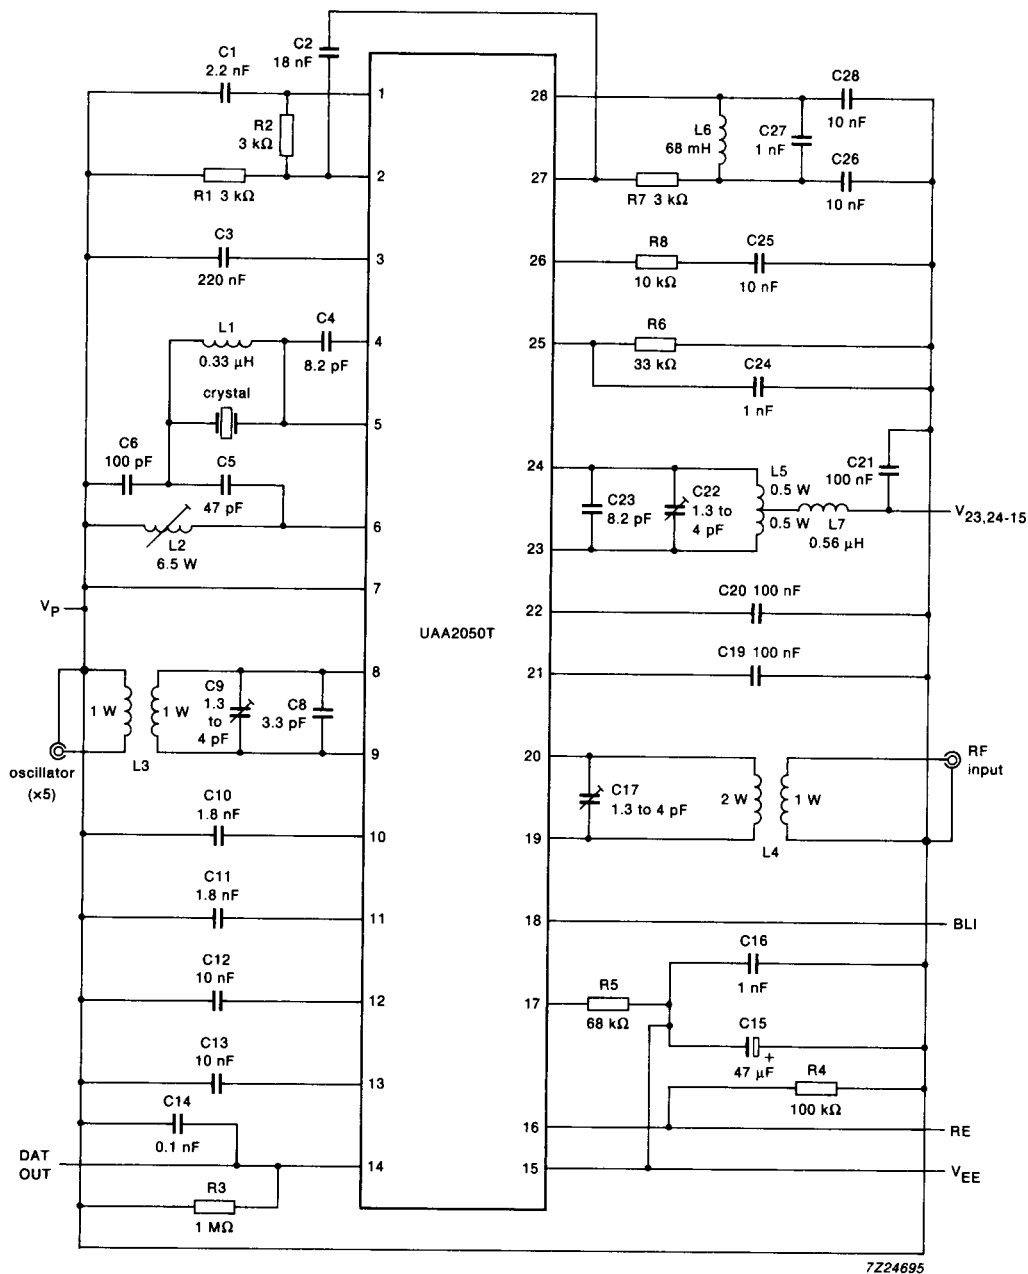

Fig.4 Test circuit (UHF).
$V_P = 2.0\text{ V}$; $V_{23,24-15} = 1.1\text{ V}$; all voltages referenced to V_{EE} ; $T_{amb} = -10$ to $+55\text{ }^\circ\text{C}$; typical values measured at $T_{amb} = 25\text{ }^\circ\text{C}$; test circuit as Fig.4; L2 and L3 short-circuited; unless otherwise specified
For AC test procedures refer to section 'TEST INFORMATION'. $V_P = 2.0\text{ V}$; $V_{23,24-15} = 1.1\text{ V}$; all voltages referenced to V_{EE} ; $T_{amb} = -10$ to $+55\text{ }^{\circ}\text{C}$; typical values measured at $T_{amb} = 25\text{ }^{\circ}\text{C}$; test circuit as Fig. 4 and printed-circuit board layout as Fig. 7; test signal: $f = 469.200\text{ MHz}$; deviation = $\pm 4.5\text{ kHz}$; modulation = 256 Hz rectangular; channel spacing = 25 kHz ; unless otherwise specified
1. After performing the DC tests, prepare the device for AC testing (as shown in Fig. 4).
For information concerning the crystal oscillator and inductors, refer to Fig.4.